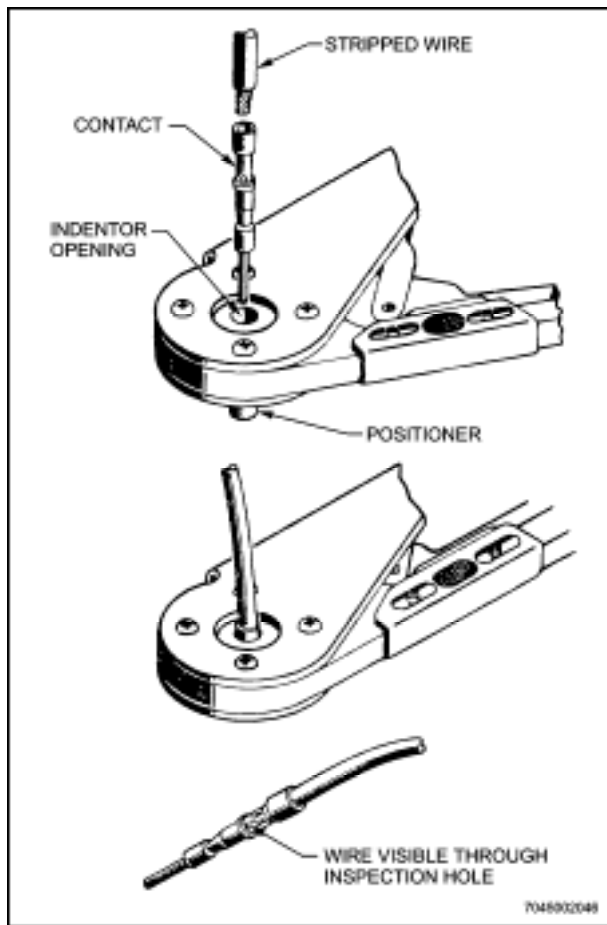

Figure 10–18 Assembling Wires To Crimp Type Contacts
- b. If the head to be used is a turret head, first depress the turret trigger to release the turret portion to the indexing or extended position as shown in Figure 10–16.
- c. Place the head over the retaining ring on the back of tool (selector side) and seat against the tool body; secure the 3.5mm socket head screws with Allen wrench (see Figure 10–16). If the positioning head is the single positioner type, omit steps d. and e.
- e. Rotate the turret until the correct positioner is lined up with the index mark on the turret head and push the turret in until it snaps into the locked position (see Figure 10–16).
When crimping contacts with an insulation support cup, make sure the insulation extends into it (0.4 to 0.8 mm from bottom of cup). (The contact shown in Figure 10–18 has this feature.)
- j. Remove the crimped contact and inspect, making sure the wire strands are visible through the inspection hole in the contact wire barrel (see Figure 10–18).